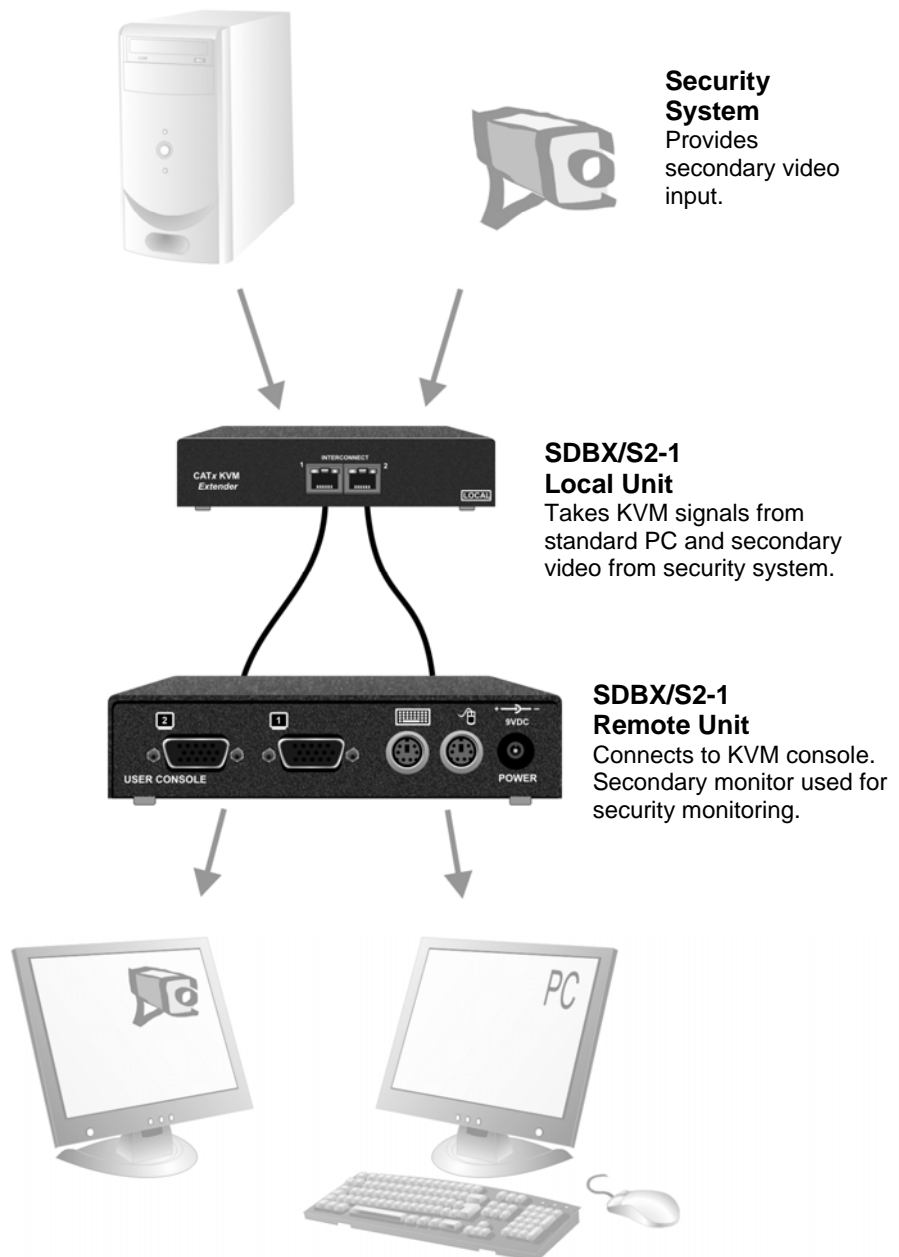

Figure 10 Extender system using SDBX/S2-1 kit with second screen for security monitoring
- Extender system with second screen for security monitoring (Figure 10).